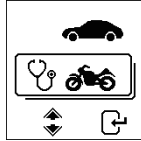

Fig.26
1. While on the main menu as shown in Fig.26 below, select  for motorcycle battery test.